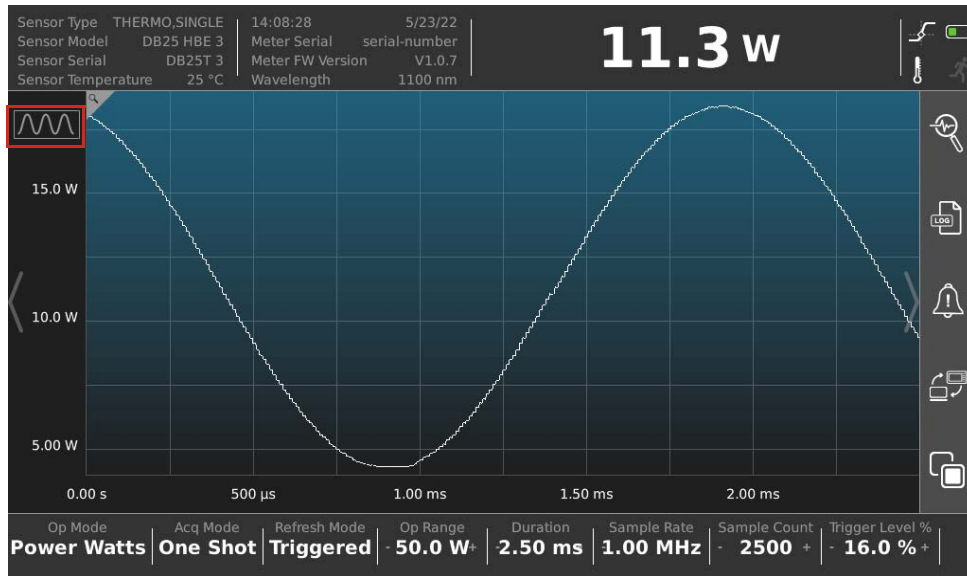

Figure 6-6. Trend View
14. Swipe left or right on the touchscreen to select the Trending view. Refer to the example in Figure 6-6.
- c.) Press the **Trend Zoom Setting** button at the top left to open the Trend Zoom settings. Refer to Figure 6-6.